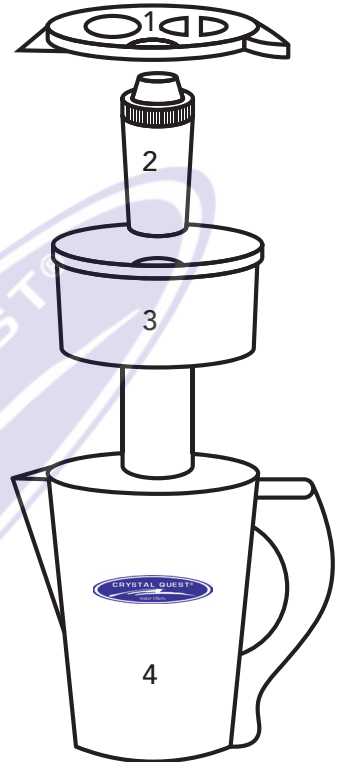

Fig. 1
1. **Unfiltered water leaks into the filtered water reservoir:** Check to be sure that the filter cartridge (2) has been pushed firmly into place.
2. **Dust appears in the filter water reservoir:** Filter cartridge (2, Fig 1) is not flushed properly. Flush new cartridges.